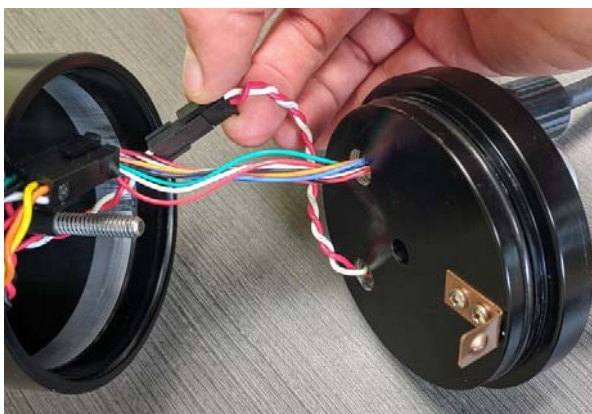

Figure 17: Disconnecting the rear bulkhead Molex connectors.
3. Gently disconnect the Molex connectors between the rear bulkhead and the internal electronics (Figure 17).